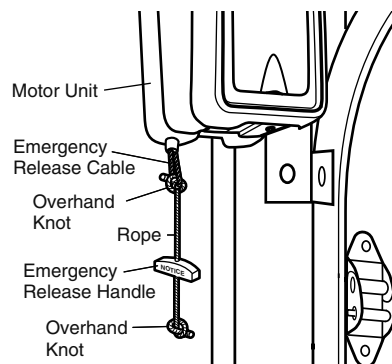

Figure 1
2. Ensure rail surface is clean and adhere lock template to achieve a 3" (7.6 cm) distance between the center of the roller and the pin hole (Figure 1).